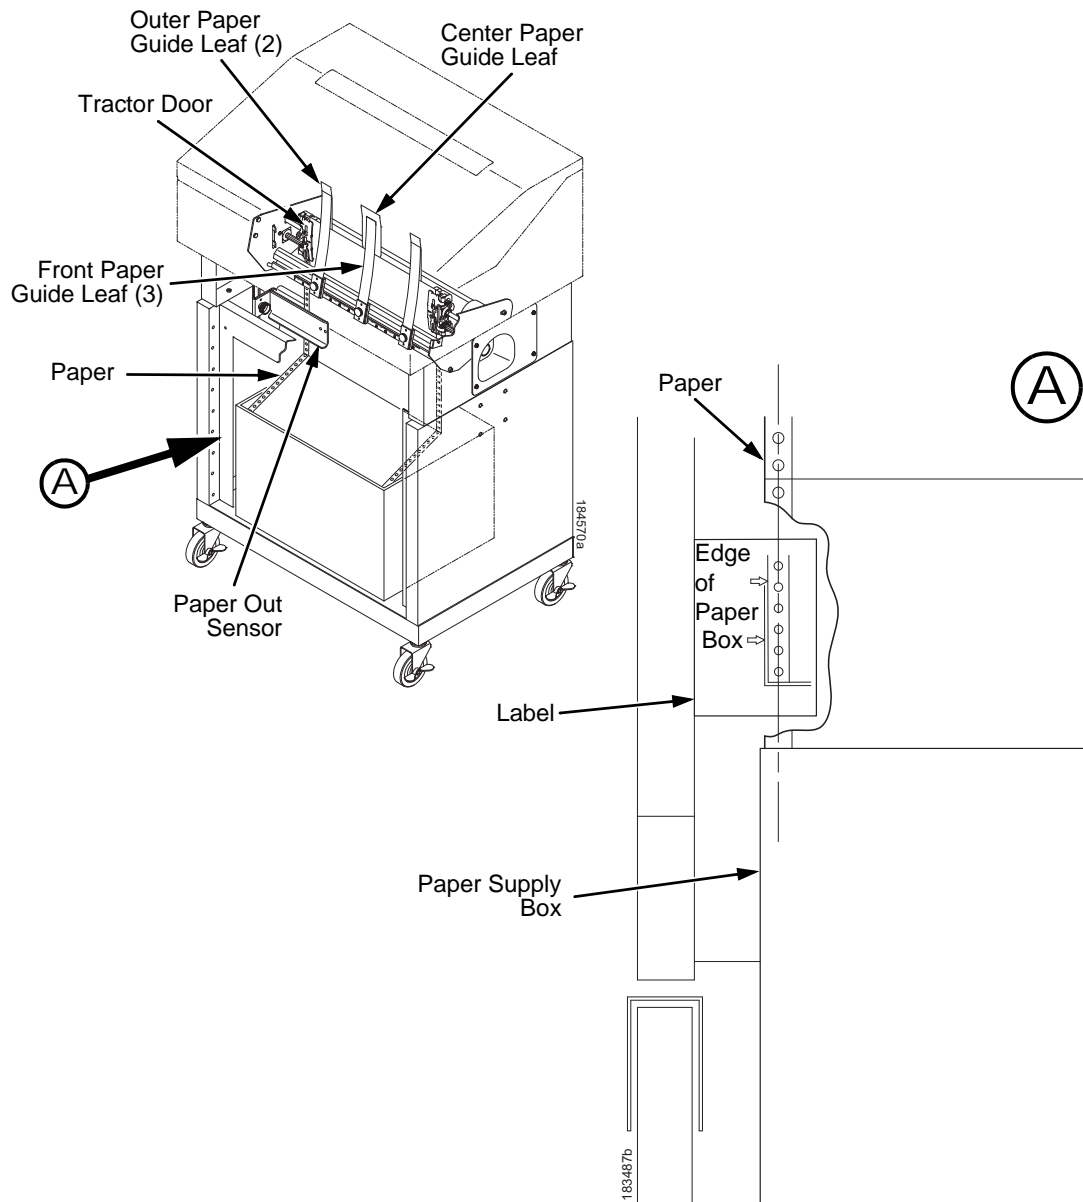
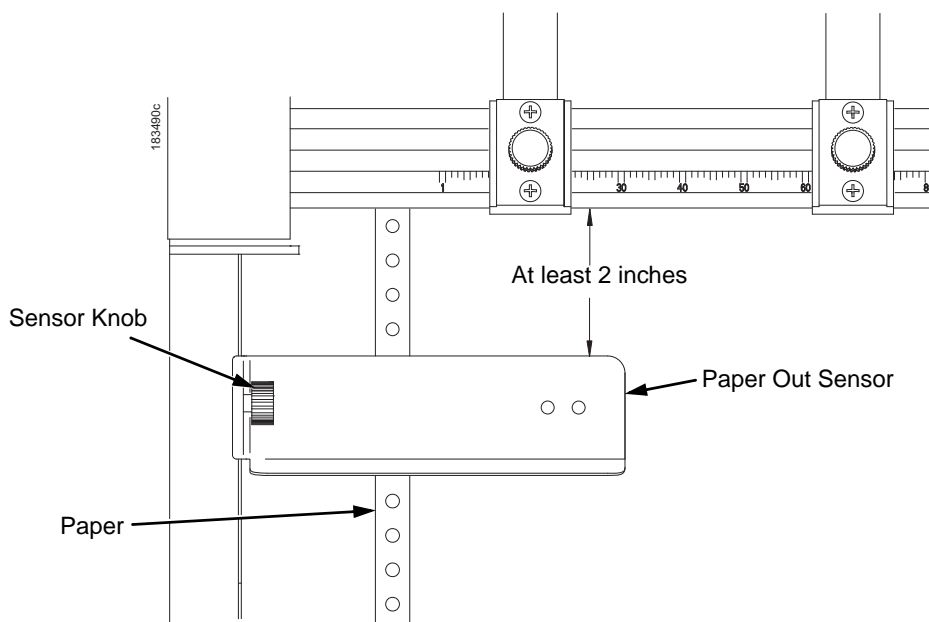

Figure 3. Loading Paper onto the Printer
Figure 6. The Paper Out Sensor
1. Align the paper supply box with the label on the left side of the floor. (See Figure 3 on page 352.)
The paper out sensor indicates when the printer runs out of paper. (The sensor does not work with black backed forms.) Unlike the standard pedestal printer, the ZT printer requires you to load the paper through the paper out sensor slot (Figure 3 and Figure 6). Correct positioning of the paper out sensor ensures that the last form the printer prints will be properly presented to the tear bar. To position the paper out sensor, do the following: